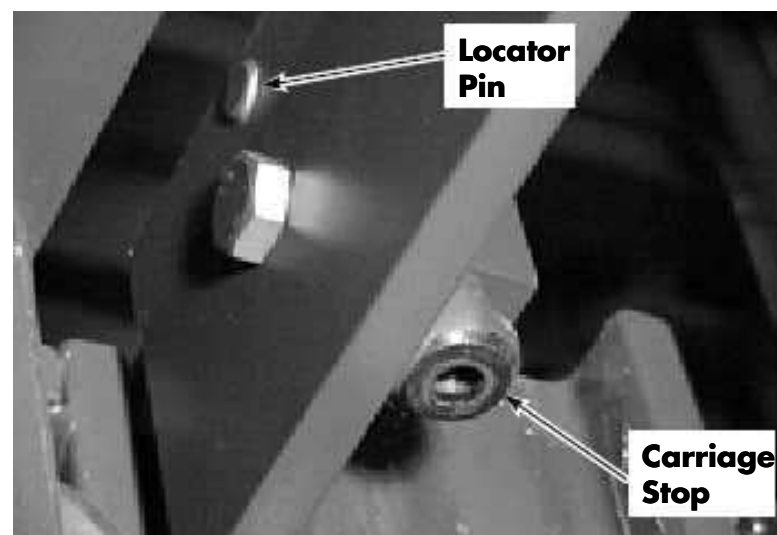
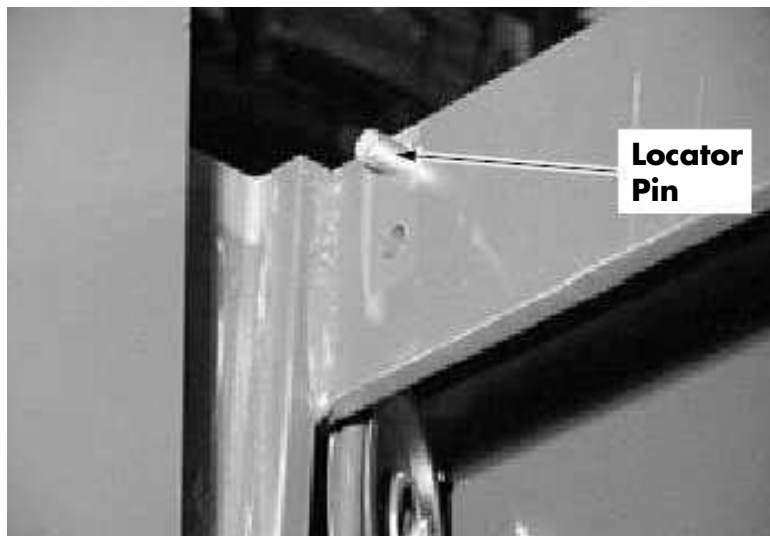

Figure 7-177. Inner Telescopic, Top Corner
Figure 7-178. Inner Telescopic, Top Corner, Stops Removed
11. Remove carriage stops (2) from inner telescopic and pound in locator pins until carriage can clear the telescopic. See Figure 7-177 and Figure 7-178.
10. Install carriage stops at top of inner telescopic. See Figure 7-177.